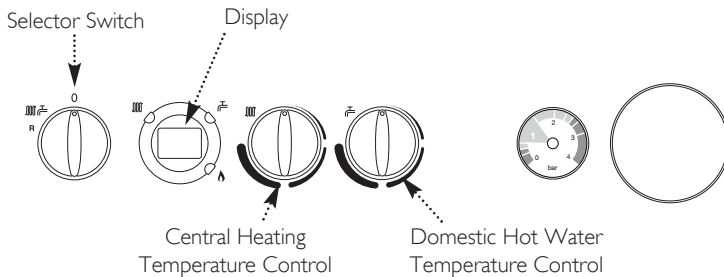

Fig. 39
6. With the boiler operating in the maximum rate condition check that the operational (working) gas pressure at the inlet gas pressure test point (Fig. 39) is in accordance with B.S. 6798 & B.S. 6891. This must be AT LEAST 17mb !